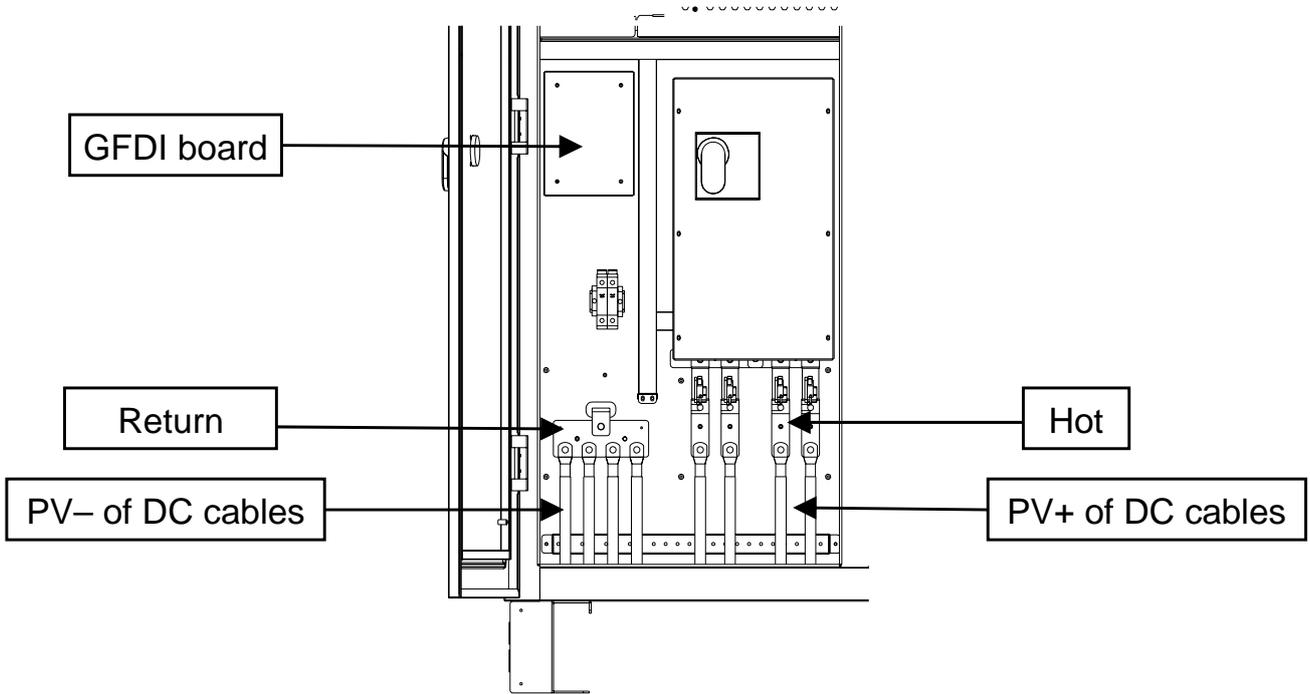

Figure 3-8 DC connection of CPS SC100KT-O/US-480
(2) Confirm that the input PV modules are of the same specifications and types before connection of DC input;
(3) Connect the DC cables to the inverter's copper bar terminals of DC side according to the Table 3-3, as shown in Figure 3-8 and 3-9. In Table 3-3, CPS SC100KT-O/US-480, this type of inverter means that the negative pole of DC input needs to be connected to the earth grounding wire and CPS SC100KT-OPG/US-480, this type of inverter means that the positive pole of DC input needs to be connected to the earth grounding wire.